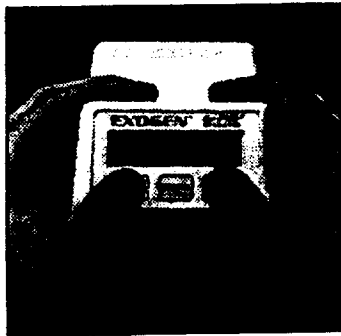
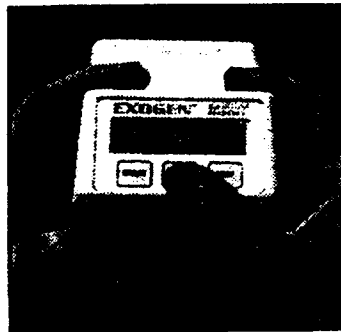

Fig. G.1
Fig. G.2
- a. Hold the MOU in both hands with the left hand positioned so that the left thumb is over the "Start (◊)" button and right hand positioned so that the right thumb is over the "Stop (⊙)" button. With the device off, which is denoted by a blank screen, simultaneously press the "Start (◊)" and "Stop (⊙)" buttons momentarily (Fig. G.1) then immediately press the "Status (⊗)" button using either thumb (Fig. G.2).